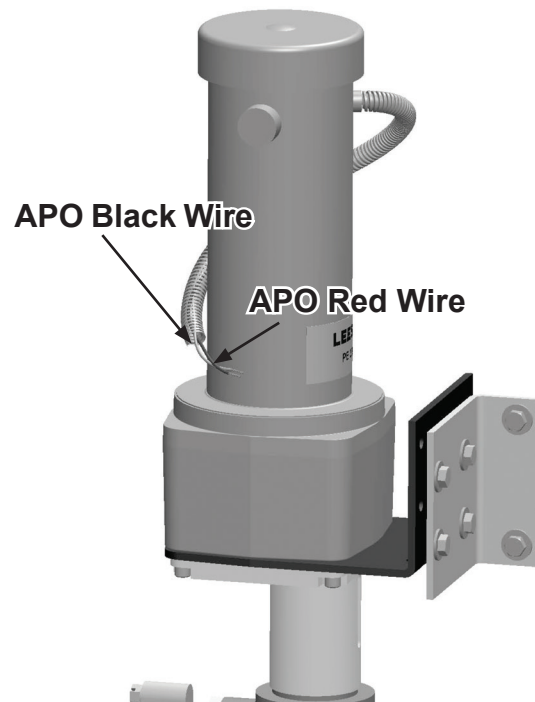

Figure 33. Connect Fuse to Red APO Wire; Route Black APO Wire to Ground Lug on Power Pack
5. Locate the red wire within the split loom (wiring harness). Connect it to the inline fuse (with the fuse). Connect the fuse to the red APO motor wire (see Figure 33).